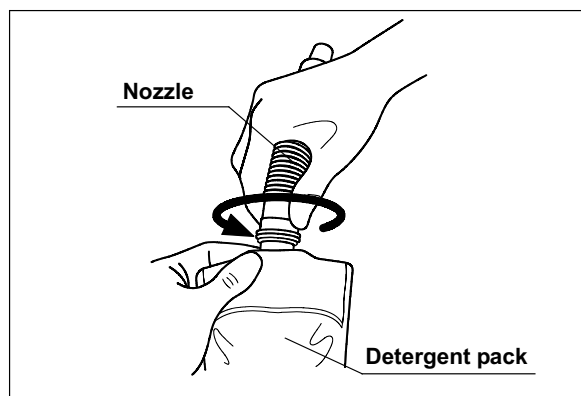

Figure 3.6
5. Remove the cap from the EndoRapid 980 ml pack (Olympus-designated detergent) and attach the provided nozzle to it by turning the nozzle all the way in the direction shown in Figure 3.6.